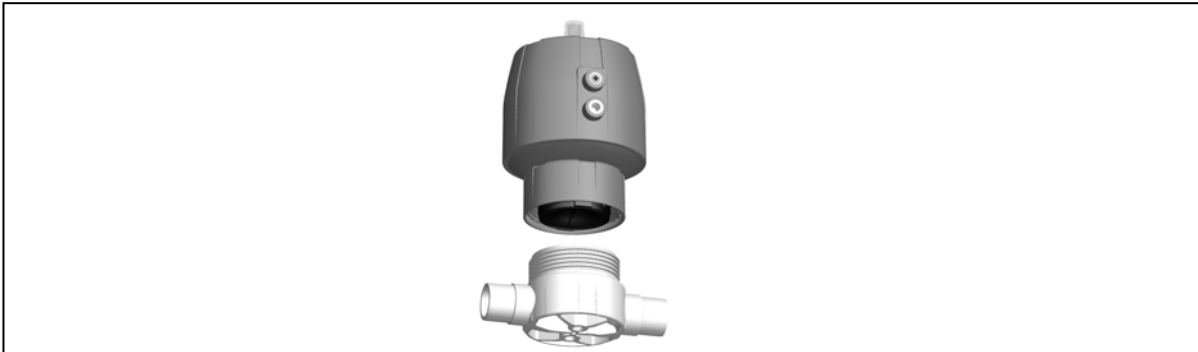

Fig. 24
- ▶ Position actuator on the valve body: Realign the bulge of the diaphragm parallel to compression piece, see fig. 24